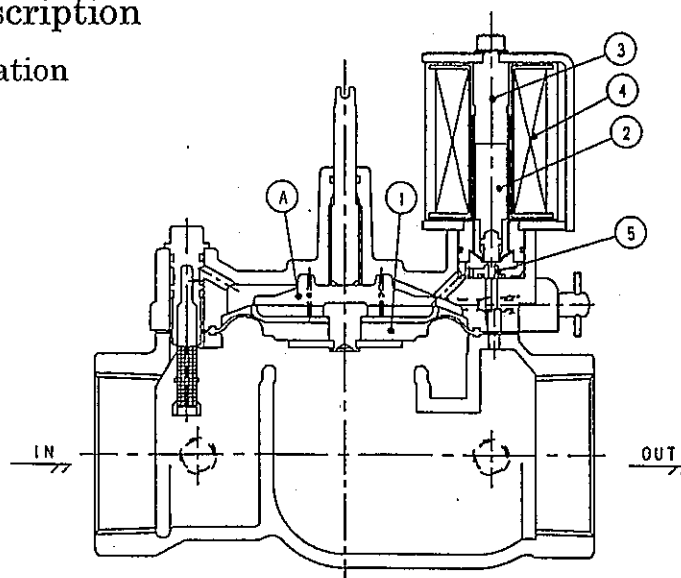

Fig. 18.
(1) Figure 18 shows the structure drawing of the RSV-32, 40, 50A-210K (standard part).
When the coil ④ is energized, the plunger ② is attracted to the core assembly ③. The liquid in the upper ① chamber of the diaphragm assembly passes through the pilot valve seat ⑤, and flows to the OUT side. At this moment, the ① chamber pressure drops below the IN side pressure, creating a pressure difference. The diaphragm assembly ① rises with this pressure difference, and allows the water to pass. (Refer to Fig. 18.)